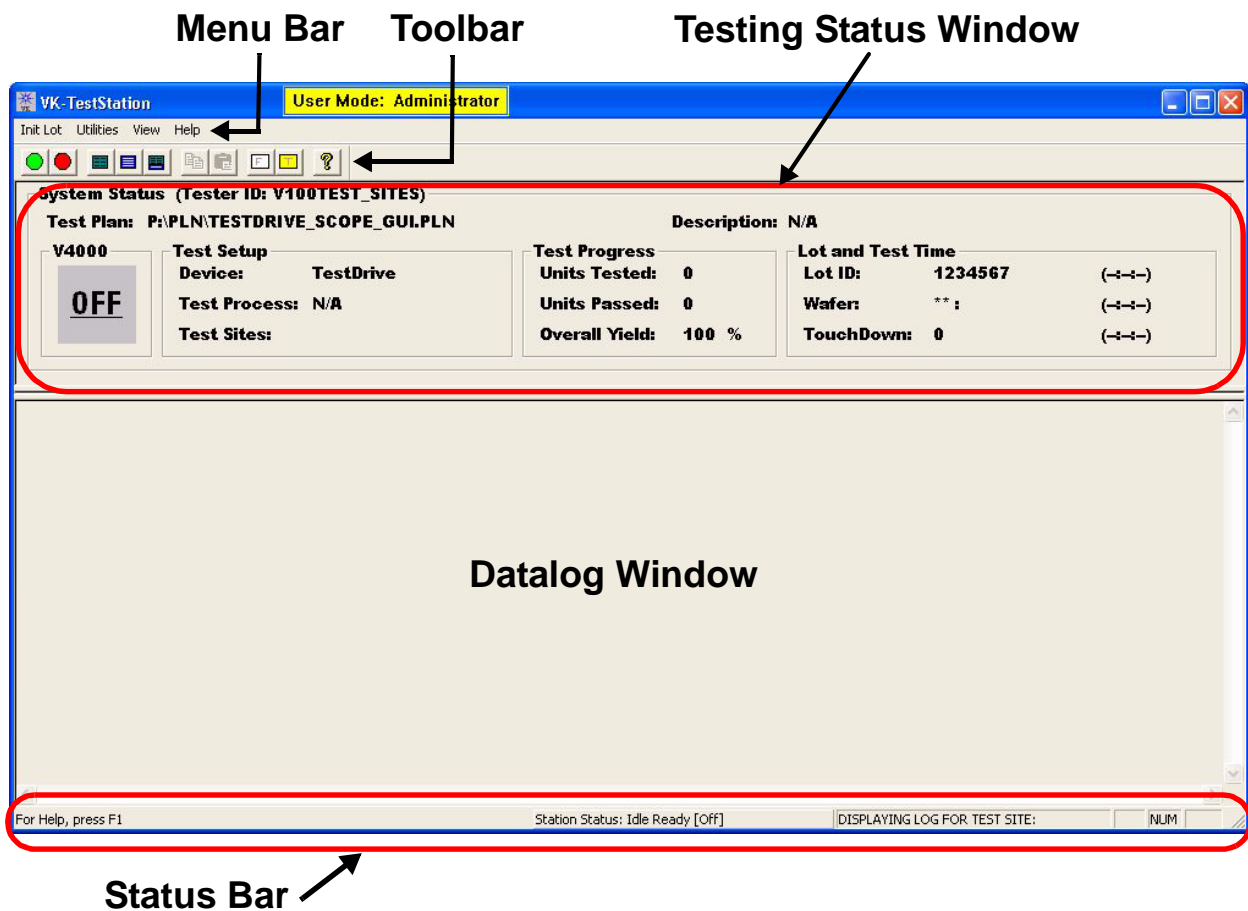

Figure 5-36. VK Test Station Main Window
- 1 Selecting  > All Programs > Versatest Test System Software > VK Test Station displays the VK Test Station main window (similar to Figure 5-36). Note that the Status Bar displays Station Status: Idle Ready NO PHYSICAL SITE CONFIGURED that indicates the test sites are powered off and no plan file is loaded.
- 4 Selecting the `TestDrive_scope_gui.PLN` plan file and then selecting **Open** displays the Initialize Test Station Setup dialog box with the plan file displayed in the Test Plan field (Figure 5-36 on page 181).